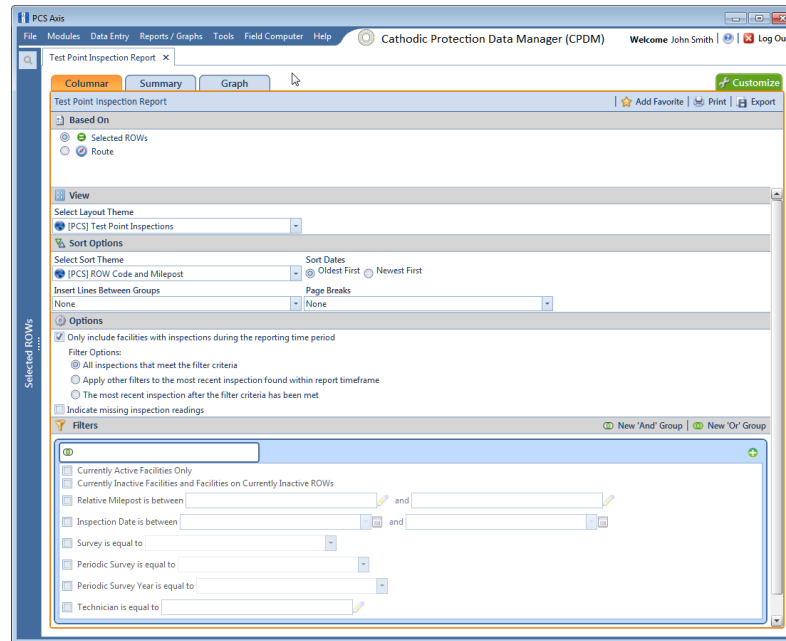

Figure 16-22. Test Point Inspection Report
- 2 Click **Reports/Graphs** and then select a report in the menu to open a window with report property settings. If the *Columnar* property settings window is not visible, click the **Columnar** tab  to open the window (Figure 16-22, page 733).
The following figure shows an example of the *Columnar* property settings window for the *Test Point Inspection Report* (Figure 16-22, page 733).